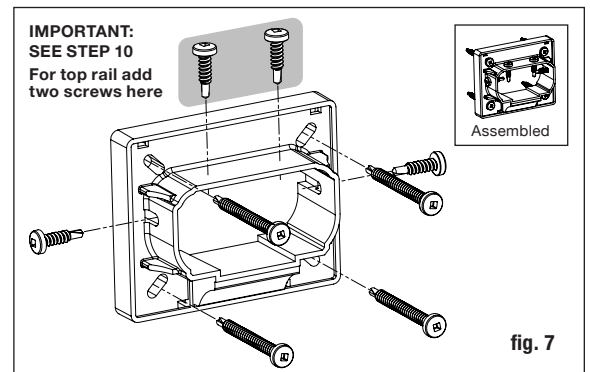

fig. 7
Step 10 Place the line rail bracket covers and line brackets on the ends of the top rail. Position the top rail by placing the balusters inside the routed holes, while working from one end to the other. Check the rail for level. Using the line bracket as a guide, mark the screw positions on the post sleeve and rail on both ends. Pre-drill 1/8" pilot holes through the post sleeve and rail. Attach the line bracket to the post sleeve using four #8-15 x 2" - #2 square drive pan head screws and then attach line bracket to rail using four #10-16 x 3/4" - #2 square drive pan head self-drilling screws. **Important: For the top rail only, pre-drill and attach two additional screws through the top of the bracket, into the top rail (fig. 7).**
Step 9 Place the stair rail bracket covers and stair brackets on the ends of the top rail. Position the top rail by placing the balusters inside the routed holes, while working from one end to the other. Center the stair bracket on the post. Using the stair bracket as a guide, mark the screw positions on the post sleeve and rail on both ends. Pre-drill 1/8" pilot holes through the post sleeve and rail. Attach the stair bracket to the post sleeve using four #8-15 x 2" - #2 square drive flat head screws and then attach stair bracket to rail using four #8-16 x 3/4" - #1 square drive wafer head self-drilling screws. **Important: For the top rail only, pre-drill and attach two additional screws through the top of the bracket, into the top rail (fig. 7).**